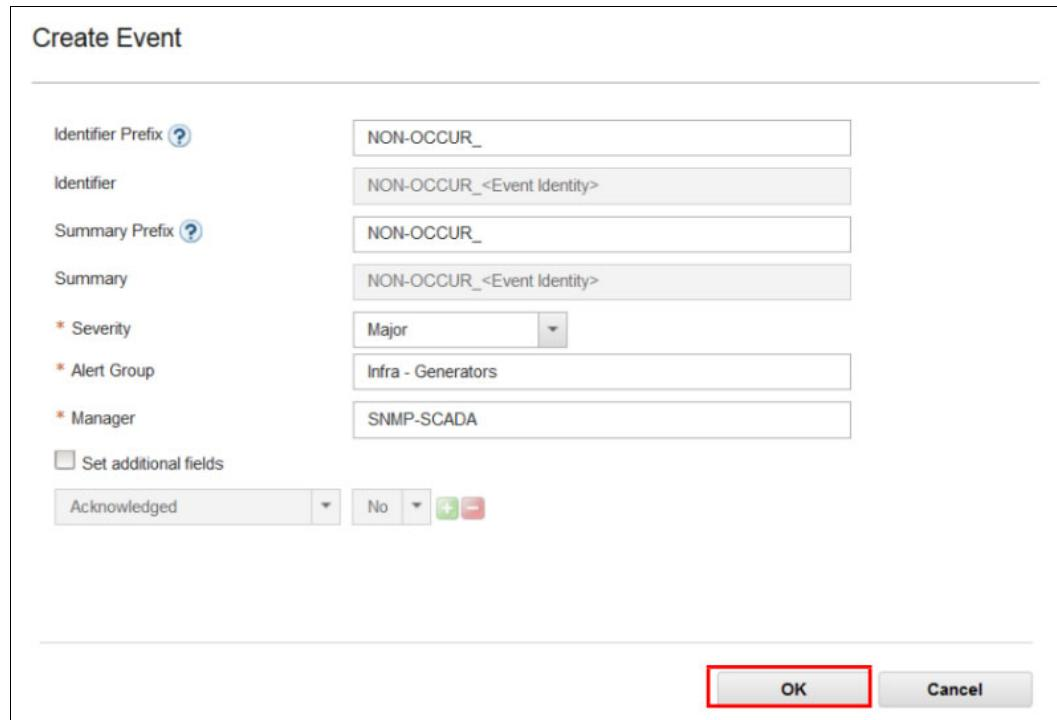

Figure 6-13 Non-Occurrence Event dialog
9. If the expected Power Supply test and Generator restart events do not occur, Marco wants to be notified. To set up this notification, he creates a Non-Occurrence event by creating an Event in the Actions When Event Does Not Occur... field (see Figure 6-13).